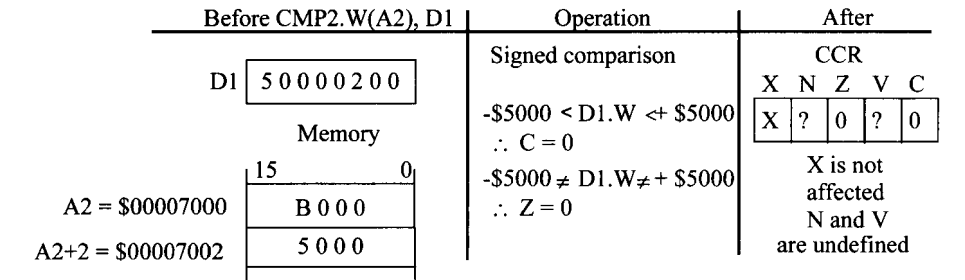
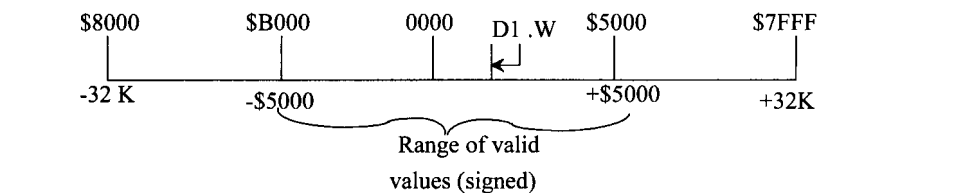

FIGURE 8.8 Register and memory contents for Example 8.7.
FIGURE 8.9 Range of valid values for D1.W for Example 8.7.
Figure 8.8 shows register and memory contents before and after execution of CMP2.W(A2),D1. In this example, the word value \$B000 contained in memory (as pointed to by address register A2) is the lower bound and the word value \$5000 immediately following \$B000 is the upper bound. Because the lower bound is the arithmetically smaller value, the programmer is indicating to the 68020 to interpret the bounds as signed numbers. The two's complement value \$B000 is equivalent to an actual value of  $-\$5000$ . Therefore, the instruction evaluates the word contained in data register D1 (\$0200) to determine whether it is greater than or equal to the upper bound,  $+\$5000$ , or less than or equal to the lower bound,  $-\$5000$ . Because the compared value \$0200 is within bounds, the carry bit (C) is cleared to 0. Also, because \$0200 is not equal to either bound, the zero bit (Z) is cleared. Figure 8.9 shows the range of valid values that D1 could contain.